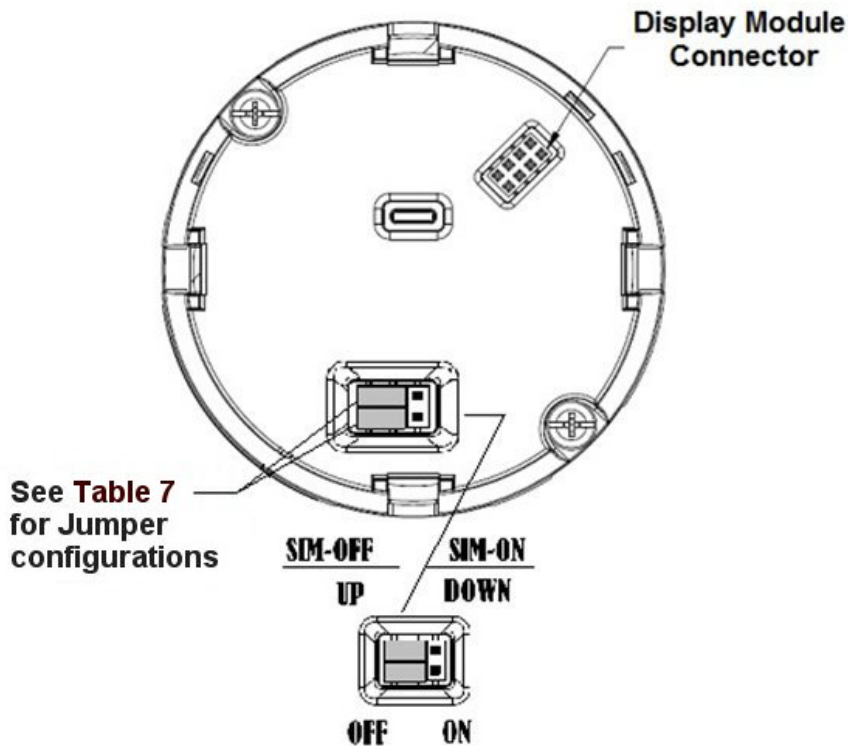

Figure 13 – Locating the Failsafe and Write Protect Jumpers
The following procedure outlines the steps for positioning the write protect and failsafe jumpers on the electronics module. See Figure 13 for the locations of the failsafe and write protect jumpers.
5. Set the Failsafe Jumper (top jumper) to the desired position (UP or DOWN). See Table 7 and Figure 13 for jumper positioning.